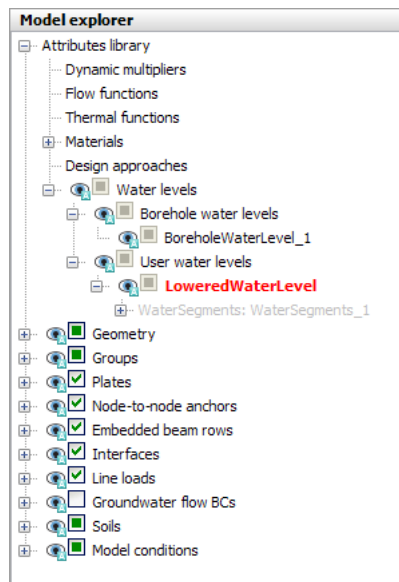

Figure 91: Water levels in the Model explorer
8. In the **Model explorer** expand the **User water levels** subtree. Click on **UserWaterLevel\_1** and type LoweredWaterLevel1 to rename the water level created in the **Flow conditions** mode as shown in Figure 91 (on page 115).